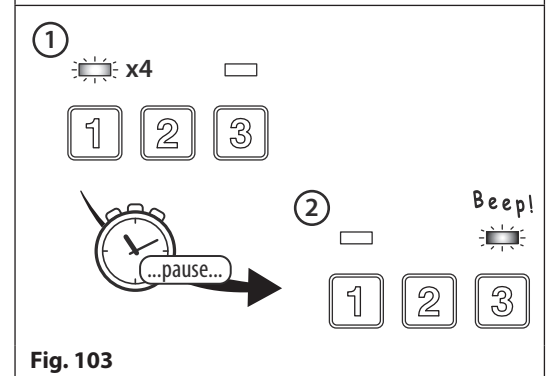

Fig. 103
2. The codelock will emit a low tone and the green data LED (Fig.103, ①) will flash 4 times followed by a brief pause;
3. The red status LED (Fig.103, ②) will then flash once and the codelock will emit a single beep.